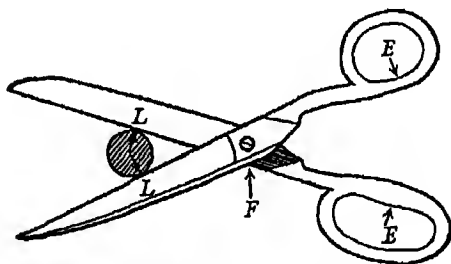

FIG. 139. Scissors, a double lever with the
6. A pair of **scissors**. Examine Fig. 139 and note that a pair of scissors is an example of a double lever of this class.